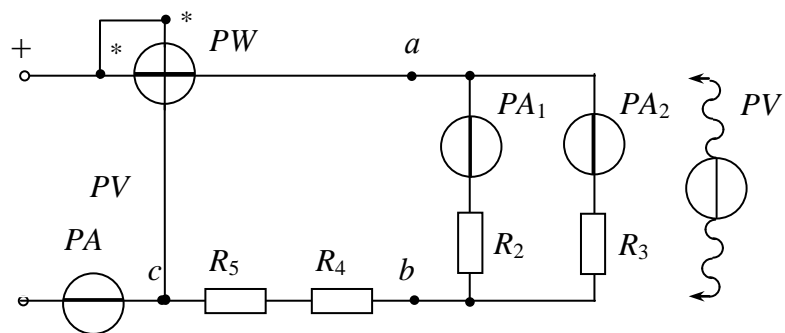

Fig. 2.18
1. To collect the circuit (fig. 2.18) and connect it to the clamps $\langle - \rangle$ $\langle 0 \div 120 V \rangle$. To place *LATR* switch in position $\langle - \rangle$, $\langle 0 \div 120 V \rangle$.
2. To investigate the circuit with mixed connection of resistors (fig. 2.18). To set the input voltage given by tutor ($80 \leq V \leq 100 V$). To write down the results to the table 2.2 item 2.
3. To investigate the circuit with parallel connection of resistors R_2, R_3 . To short the series subcircuit R_4, R_5 (points *b, c* fig. 2.18). To set the input voltage given by tutor ($14 \leq V \leq 18 V$). To write down the results to the table 2.3.
4. To investigate the circuit serial connection of resistors R_4, R_5 . To shorten the parallel subcircuit R_2, R_3 (points *a, b* fig. 2.18). To set the circuit current given by tutor ($170 \leq I \leq 200 mA$). To write down the results to the table 2.4.
The name and purpose of the work. Homework – the calculation of the circuit. Schematic diagram of the investigated circuit (fig 2.18). Tables 2.2, 2.3, 2.4. The schemes of circuits of current divider and voltage divider. The results of calculations. Conclusions.